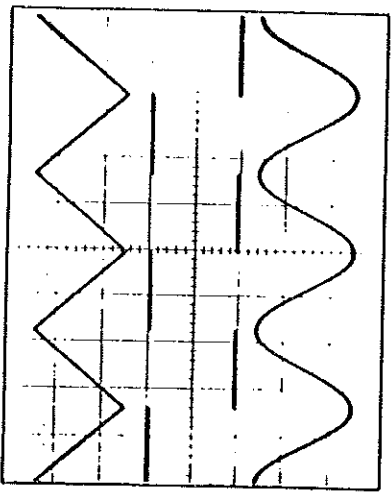

FIG. 2 WAVEFORM PHASE RELATIONSHIPS
4.4 See Figures 2, 3, 4, 5 and 6 for waveforms available at the output sockets.